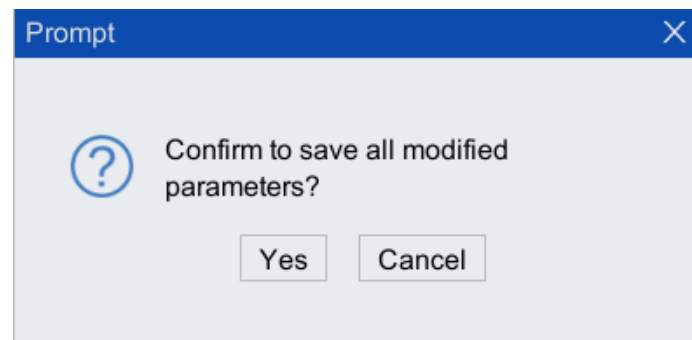

Figure 4-6 Confirm save modify prompt box
Step6. Click <Yes> in the pop-up prompt dialog box. As shown in Figure 4-6.